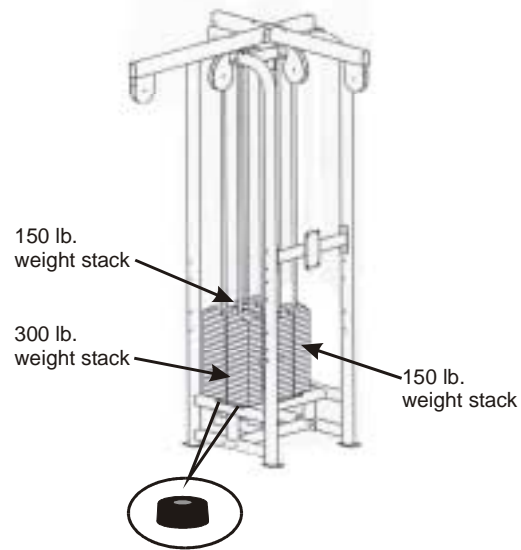

Figure 9. Mount rubber bumpers and the weight stacks.
- C. **Prepare the weight stack.** Slide the guide rods (2) through the weight stacks (1) as shown below. Place rubber bumpers (3) on the bottoms of each guide rod. Make sure the pull pin (4) is in the bottom weight plate.
- E. **Set the weight stacks onto the machine.** Using a piano dolly, lift the weight stacks over the bottom plate and set the stacks onto the rubber bumpers with the plate numbers facing outward. The 300 lb weight stacks need to be facing the “sides” of the cells (where the benches will be attached- number 8 in Figure 9). The 190 lb weight stacks will need to be facing the “outsides” and “insides” of the cells (where the tricep pulley adjustable pulleys will be attached- number 9 in Figure 9). Make sure the pull pins are facing outward.